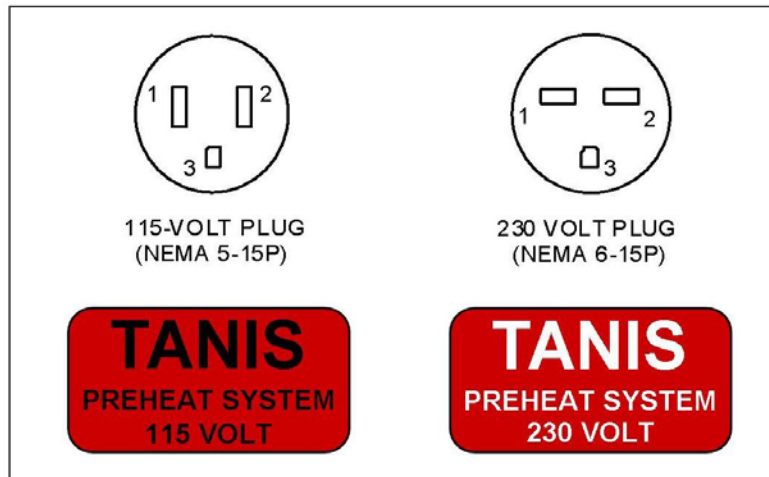

Figure 1 - Shore power plugs and placards. Placard that states at a minimum, *Tanis* and the system voltage requirement (115 Volt or 230 Volt) is acceptable.
1. Power connection/inlet: Identify method for power connection. May be interconnected with primary preheat system or installed independently. When installing independent of primary preheat kit, battery kit power connection/inlet (shore power plug) is to incorporate a non-locking blade type NEMA connector (Figure 1).
To calculate the specific wattage of an individual element or installed system, measure total resistance between the contacts 1 and 2 (Figure 1) and use the following formula.
- 4) [☐] Verify preheat system ground by checking for continuity between shore power plug ground, pin 3 (Figure 1), engine, and airframe.